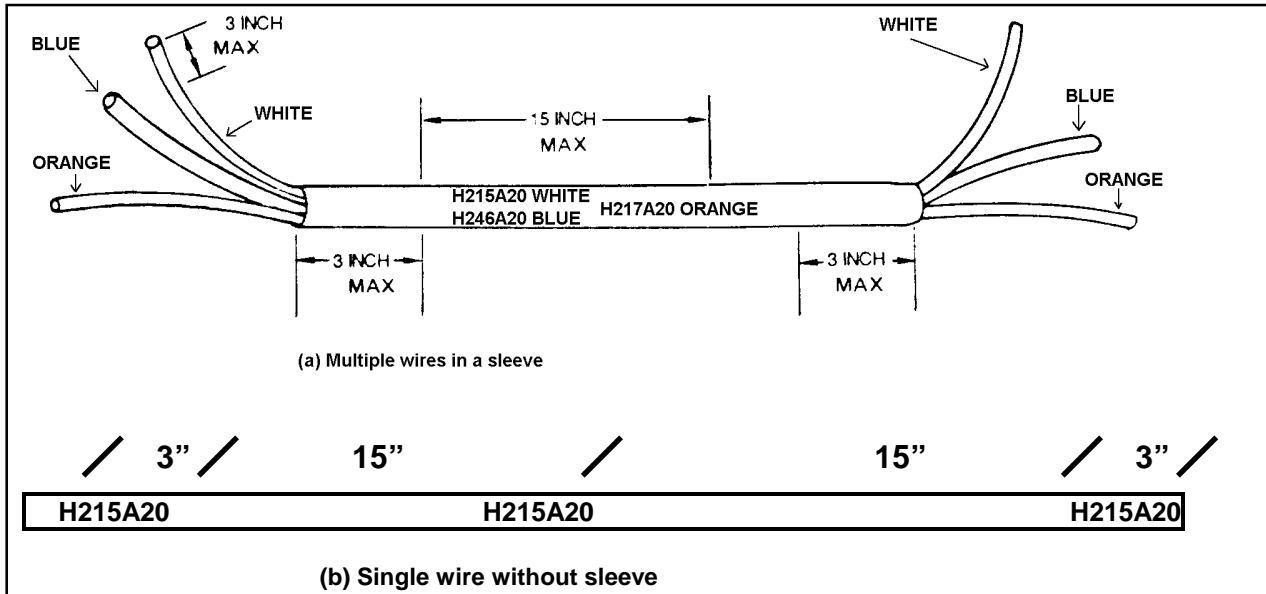

FIGURE 11-23. Spacing of printed identification marks (direct marking).
a. Direct marking is accomplished by printing the cable's outer covering. (See figure 11-23.)